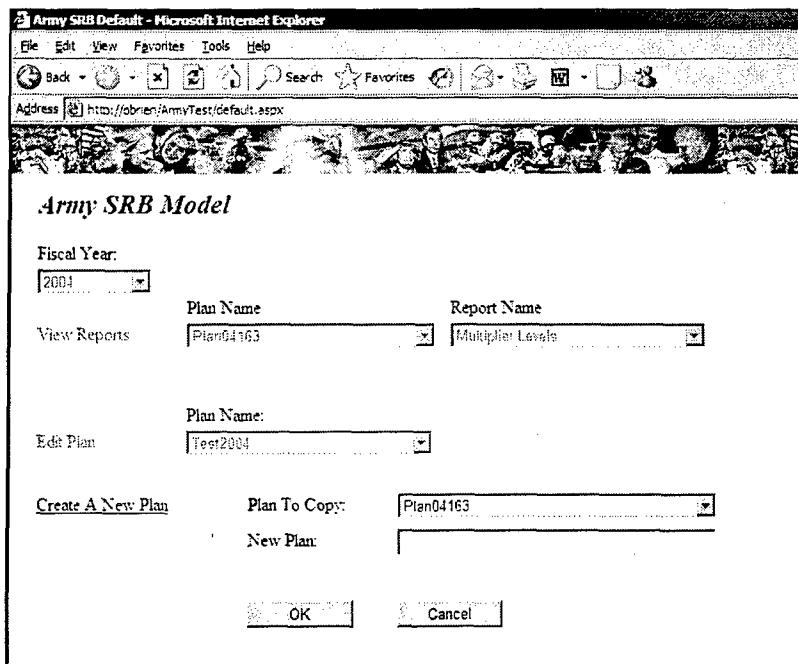

Figure 40. Create a New Plan
2. A dropdown box and an edit box will be displayed as shown in Figure 40. Select the plan from which you would like to copy from the dropdown (upper) box.